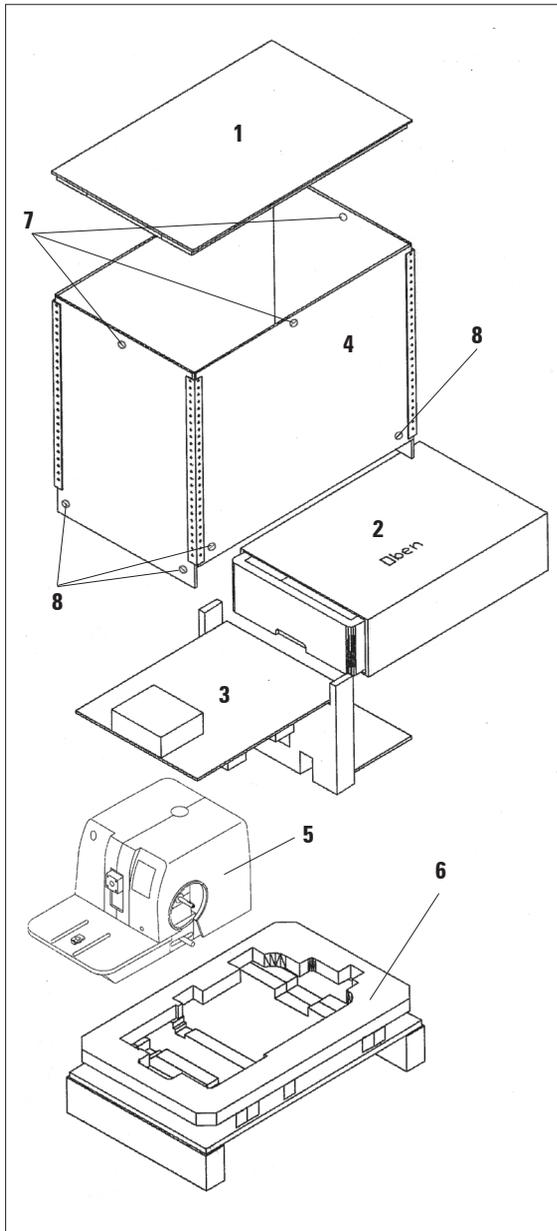

Fig. 9
The accessories are included at the top of the package (item 2 in Fig. 9).